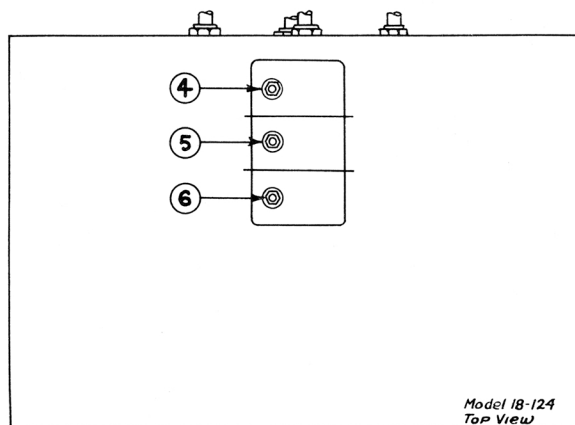

Fig. 3
2. These are located on top of the tuning condenser assembly and adjusted from above. (See Fig. 3). ④ is mounted on the section nearest front of set. Replace the grid cap clip on the 6A7 and connect the antenna lead of signal generator direct to antenna post of set for these adjustments. Set signal generator at 1500 and dial of set at 150.